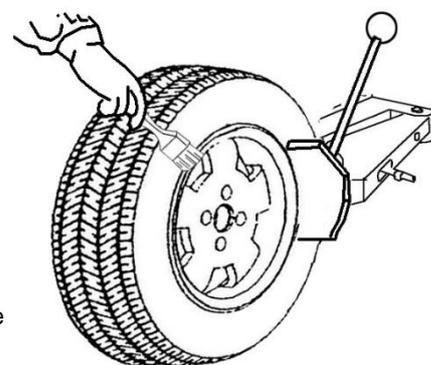

Fig 5
- Position the bead breaker blade against the tire bead at distance of about 1 cm from the rim (fig.5). Pay attention to the blade, which must operate correctly onto the tire and not onto the rim.
- Press down the pedal (I) to activate the bead breaker and release it when the blade has reached the end of its travel or in any case when the bead is broken.